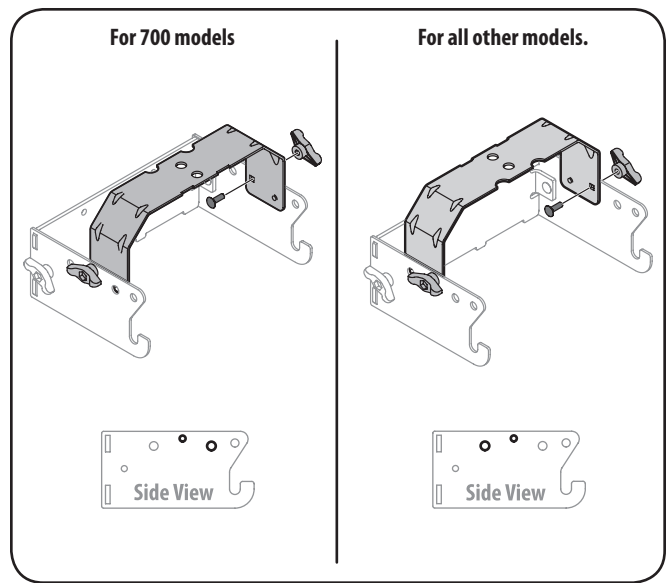

Figure 4-4
2. Flip over assembly and mount the hitch support bracket to the mounting assembly as seen in Figure 4-4.
NOTE: The holes closest to the mounting hooks are to be used for all 700 model series machines, while the two holes closest to the cross mount are for all other models. The hitch support bracket will need to be flipped to enable alignment of the proper holes depending on the model of machine this bagger is being installed on. See Figure 4-4.
1. Place the hooked ends of the mounting assembly over the shoulder bolts, as in Figure 4-4, on the tractor and line up the hitch support bracket center hole with the hole on the tractor's hitch.